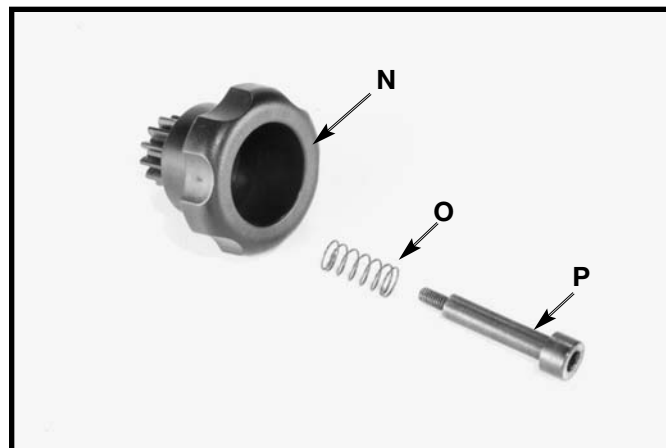

Fig.14
7. Fig. 14 shows the disassembled table tilt pinion knob (N), spring (O), and special screw (P), removed in **STEP 1**.